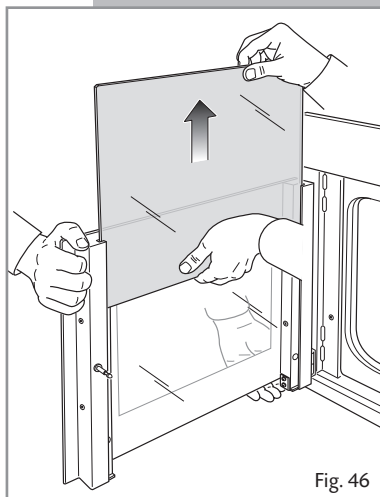

Fig. 46
When removing and replacing the inner glass, the door should be held still by one person (fig. 45). A second person should gently remove the glass (fig. 46).
- Gently pull out the inner pane of glass (Fig. 46). Forceful removal of the door glass may lead to damage of the door hinges.